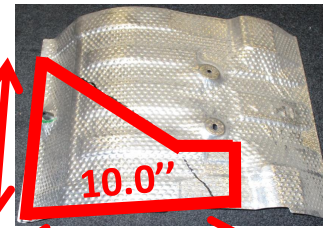

Figure 2
- Remove bottom appearance panel** - Using panel removal tool, remove (7) plastic rivets from bottom appearance panel. Using 10 mm socket, remove (1) screw from front end of panel on driver side. Using 10 & 12 mm socket, loosen (5) plastic flange nuts underneath trunk pan. Remove bottom appearance panel.
- Lower exhaust muffler** - Using exhaust removal pliers, remove rubber hangers at (3) locations. Be sure to support exhaust before removing rubber hangers.
- Remove/trim heat shield** - Using 10 mm socket, remove (2) flange nuts from heat shield. Trim the heat shield as shown in **Figure 2**.